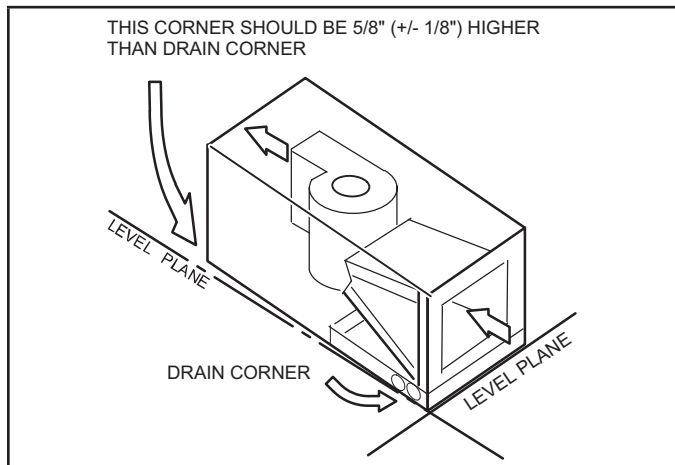

FIGURE 13. Sloping the Unit for Proper Drainage
- 3 - Set unit so that it is sloped toward the upflow drain pan end of the unit and level from front to back of unit (see figure 13).
Make sure the unit is sloped (similar to the slope shown in figure 13) so that the drain pan will empty completely without water standing in the pan.